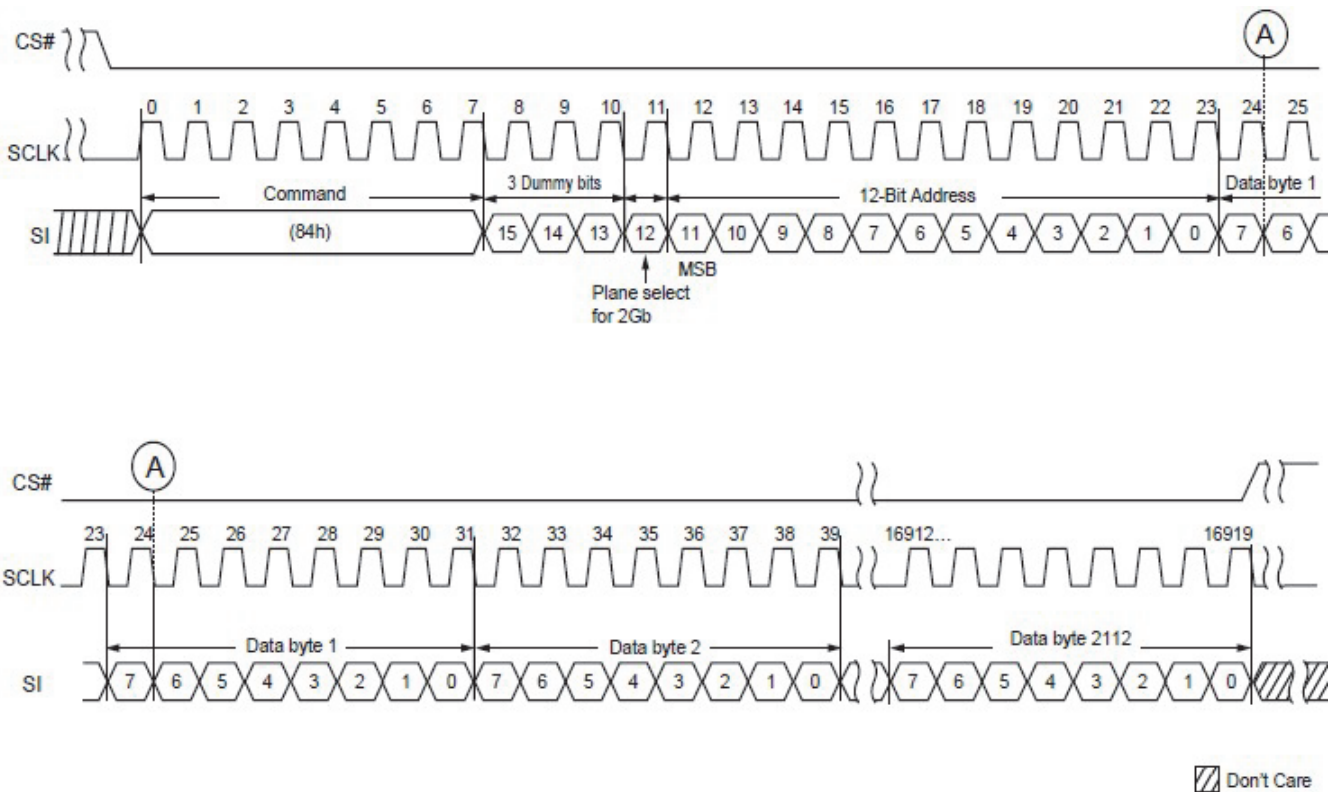

Figure 3.13 Program Load Random Data (84h)
Prior to performing a PROGRAM LOAD RANDOM DATA operation, a WRITE ENABLE (06h) command must be issued to change the contents of the memory array. Following a WRITE ENABLE (06) command, a PROGRAM LOAD RANDOM DATA (84h) command must be issued. This command consists of an 8-bit Op code, followed by 3 dummy bits, a 1-bit plane select address and a 12-bit column address. New data is loaded in the column address provided with the 12 bits. If the random data is not sequential, then another PROGRAM LOAD RANDOM DATA (84h) command must be issued with a new column address. After the data is loaded, a PROGRAM EXECUTE (10h) command can be issued to start the programming operation. See **Figure 3.13, 3.14, 3.12**
This command consists of an 8-bit Op code, followed by 3 dummy bits, a 1-bit plane select address and a 12-bit column address. New data is loaded in the 12-bit column address. If the random data is not sequential, another PROGRAM LOAD RANDOM DATA (84h) command must be issued with the new column address. After the data is loaded, a PROGRAM EXECUTE (10h) command can be issued to start the programming operation. See **Figure 3.13, 3.14, 3.12**.